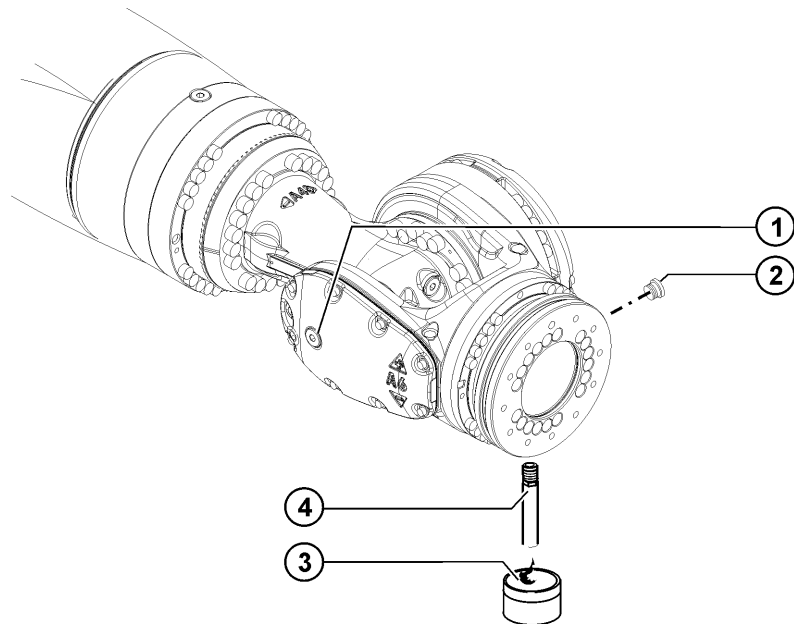

Fig. 9-7: Oil change, A6
2. Place a suitable receptacle (>>> Fig. 9-7) under the (lower) magnetic screw plug and remove the magnetic screw plug.